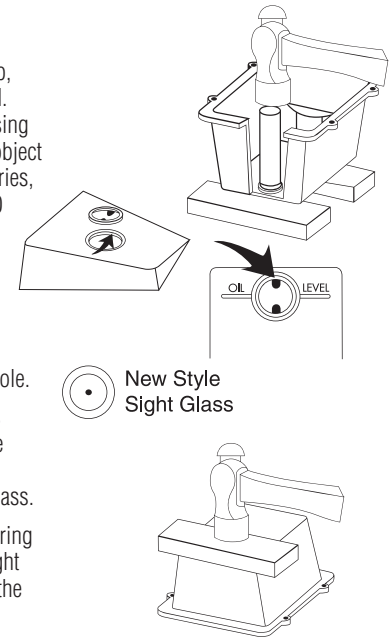

Figure 22
Step 1: With cover off of the pump, lay on two blocks of wood. Pop out the sight glass using a broom handle or other object as a punch. For DV-85 series, DV-142 series, or DV-200 series use a 1" diameter punch (Figure 22).